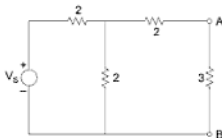

Fig. A2-5
5. The Norton's equivalent across AB in Fig. A2-5 is given by: